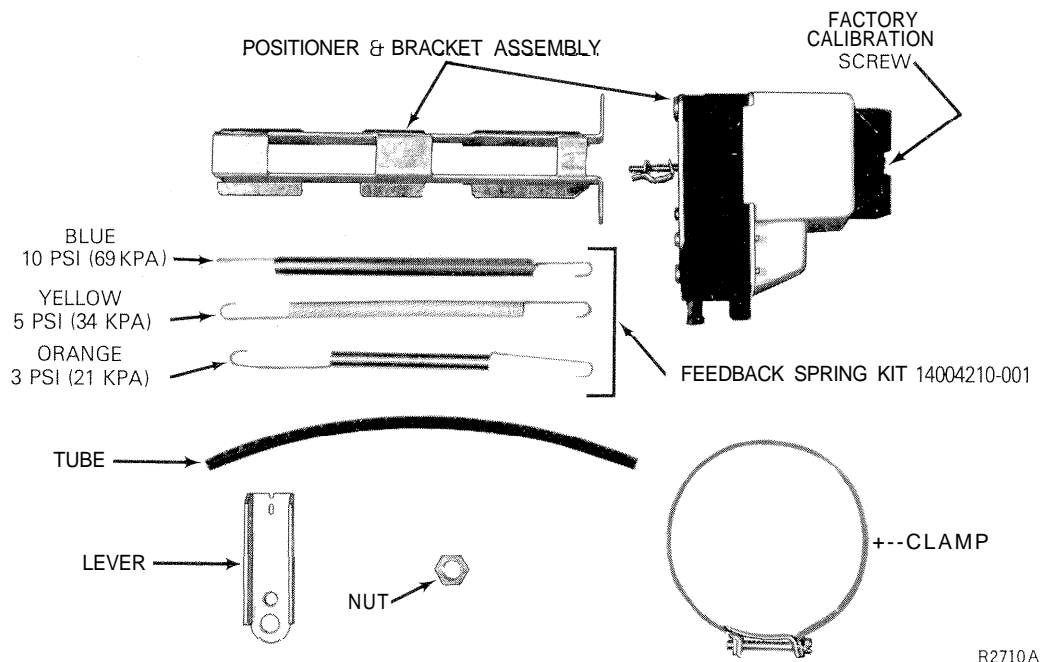

Fig. 1 .MP909E Positive Positioner Retrofit Kit, Part No. 14004137-001.
3. Thread the nut provided in the kit (Fig. 1) all the way onto the operator shaft.
6. If positioner calibration is off, recalibrate by adjusting the factory calibration screw (Fig. 1) found in the center of the knob.